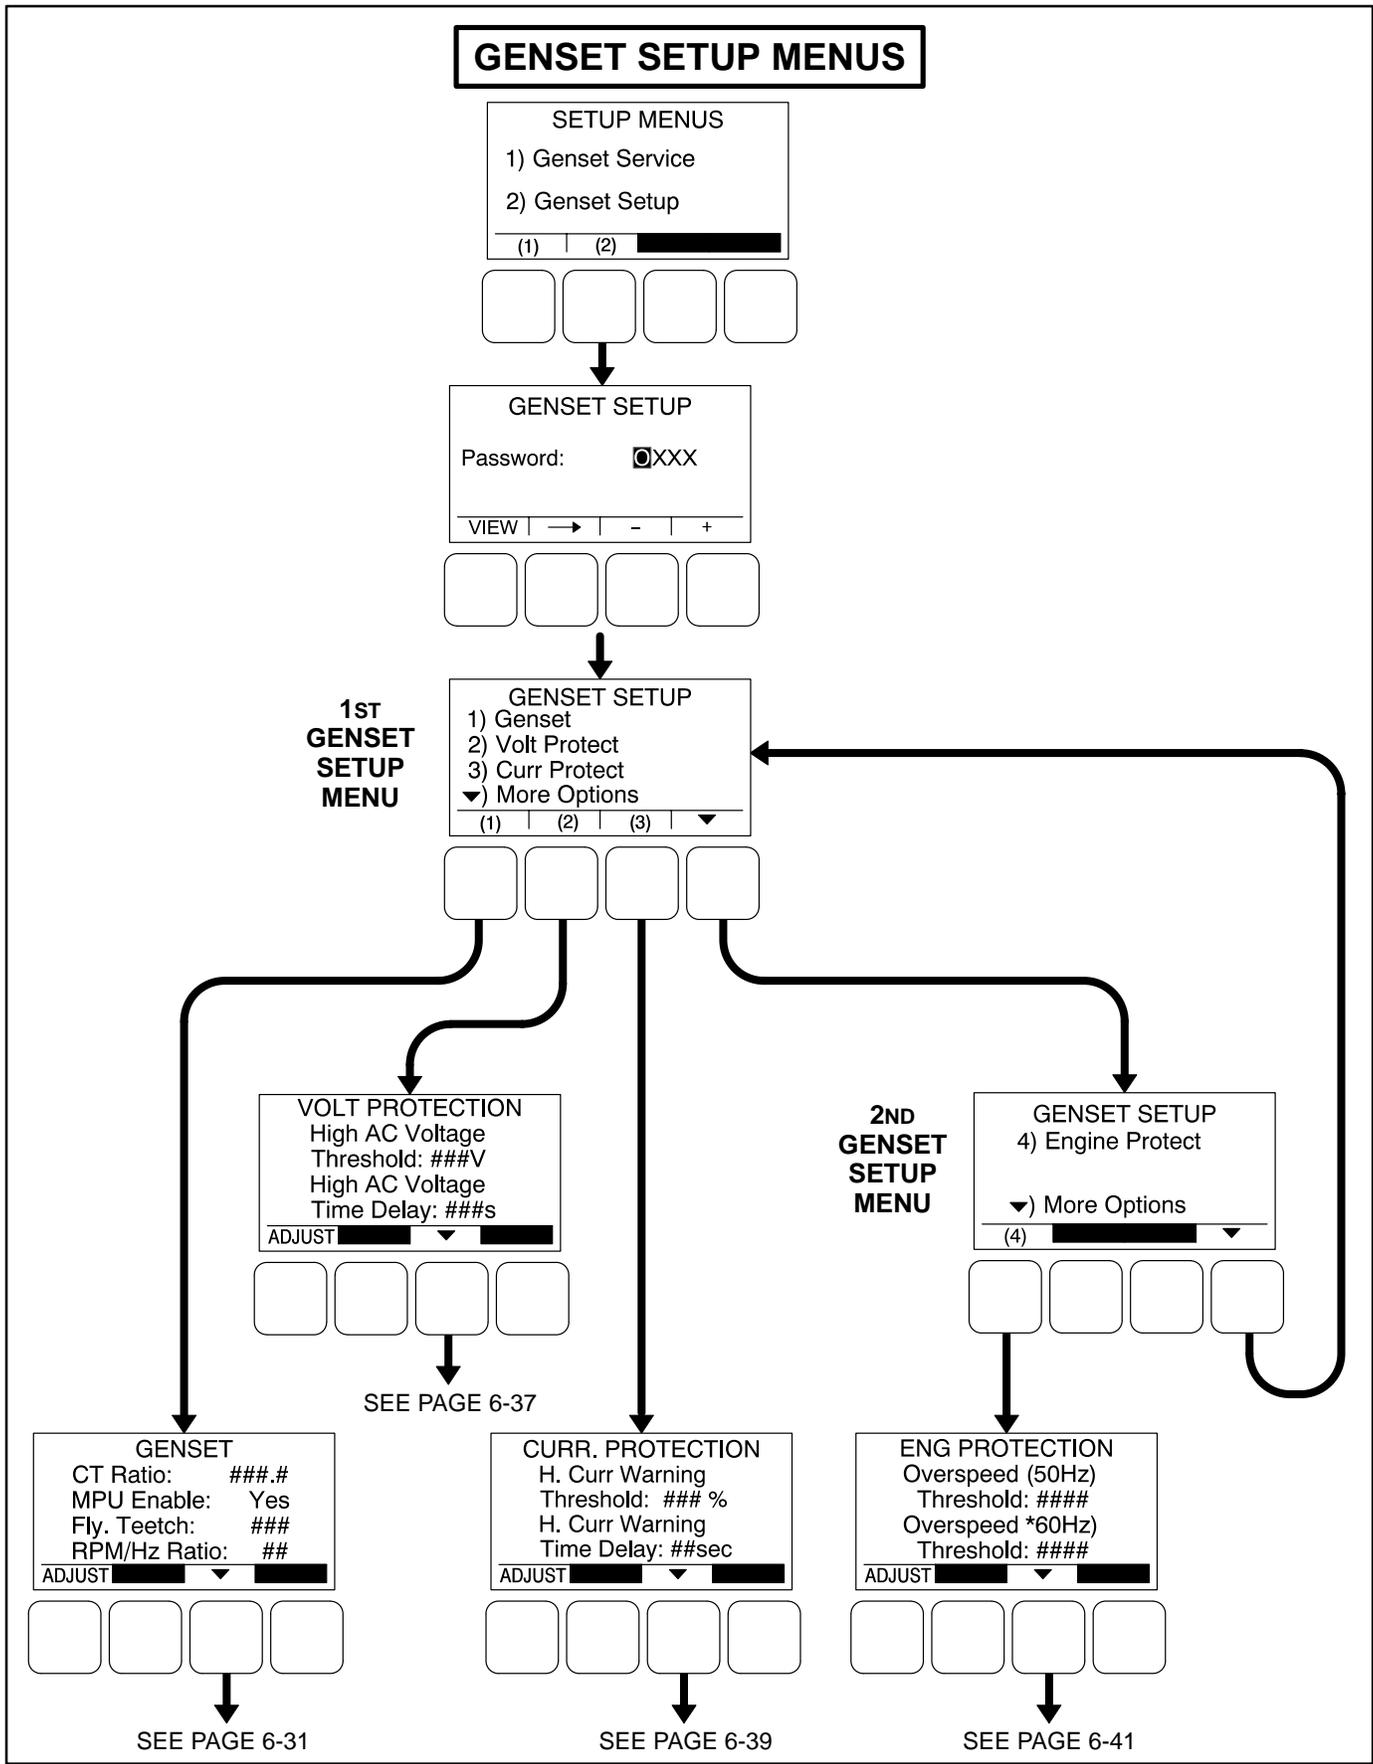

FIGURE 6-13. GENSET SETUP MENUS
Figure 6-13 is a block representation of the two Genset Setup menus that are available after the correct password has been entered or the View button is pressed in the Genset Setup Password menu. The Genset Setup menus provide access to the following categories.
When the Genset Setup Password menu is displayed, the first numeric character (0) is highlighted (see Figure 6-13).
The Genset submenus are available by pressing the **(1)** button on the first Genset Setup menu (see Figure 6-13).
The Voltage Protection submenus are available by pressing the **(2)** button on the first Genset Setup menu (see Figure 6-13).
The Current Protection submenus are available by pressing the **(3)** button on the first Genset Setup menu (see Figure 6-13).
The Engine Protection submenus are available by pressing the **(4)** button on the second Genset Setup menu (see Figure 6-13).